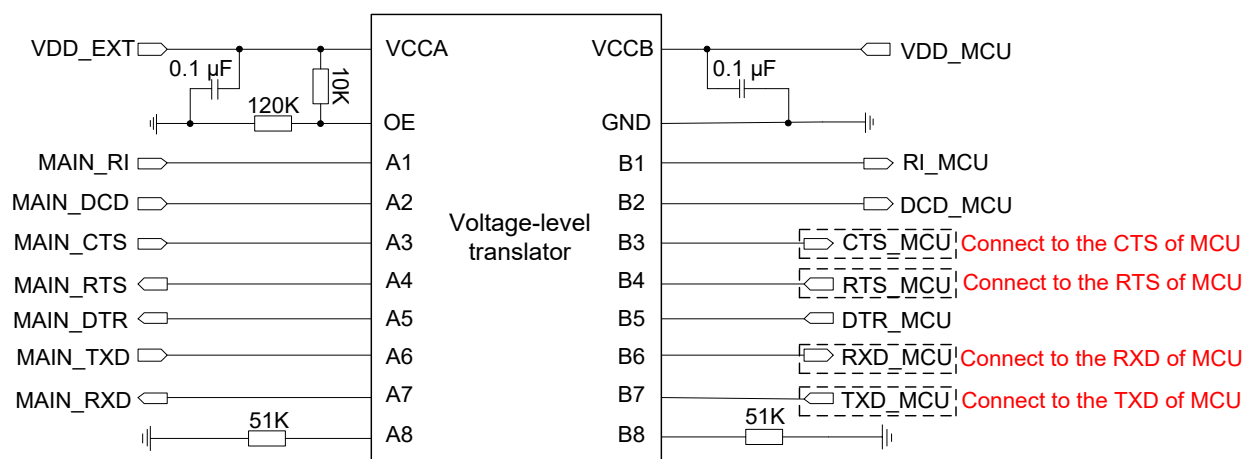
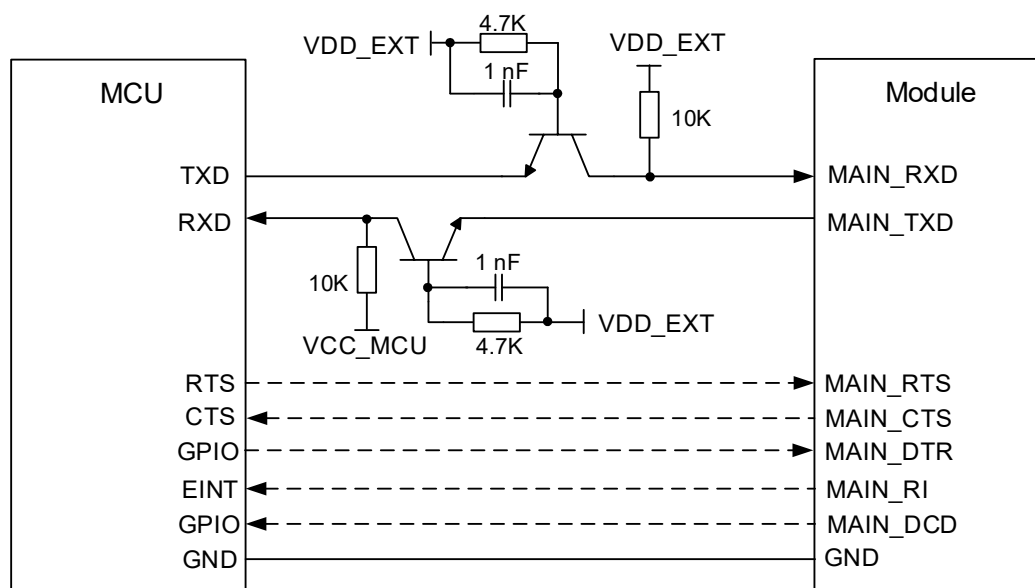

Figure 22: Reference Circuit with Voltage-level Translator (Main UART)
Figure 23: Reference Circuit with Transistor (Main UART)
3. The level-shifting circuits (**Figure 22** and **Figure 23**) take the main UART as an example. The circuits of the auxiliary UART are connected in the same way as the main UART.